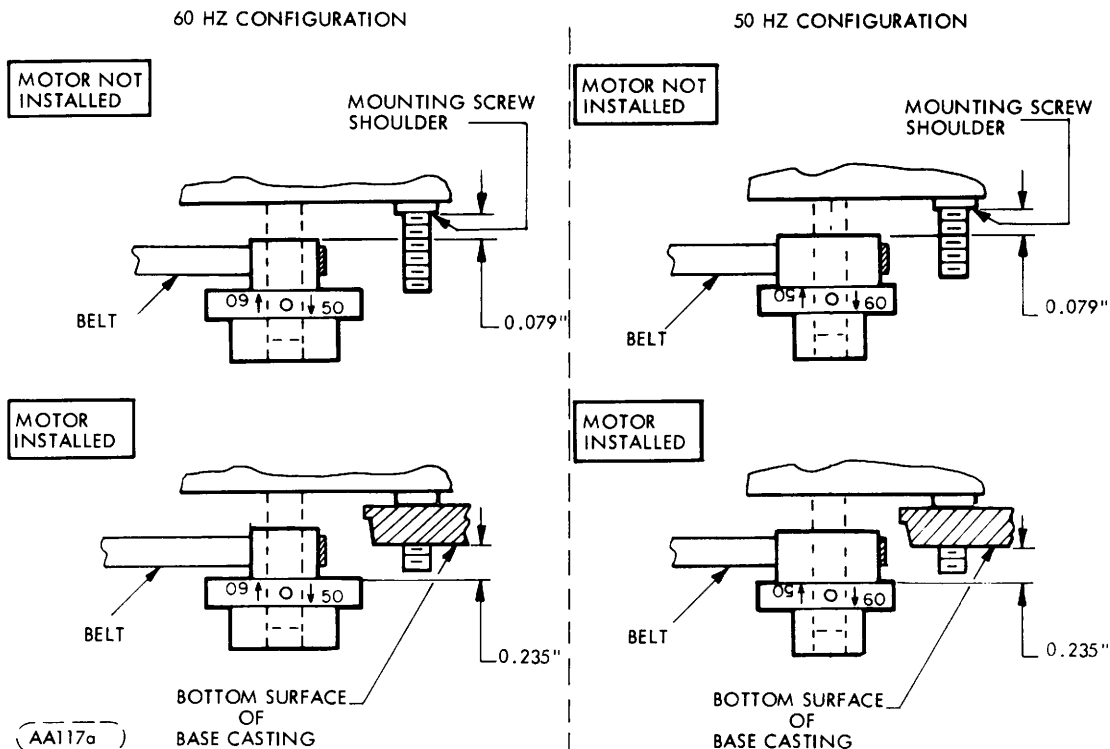

Figure 6-21. Drive Pulley Reversal
- Position pulley allowing tolerance of  $0.072'' \pm 0.010''$  between shoulder of motor mounting screws and pulley (Figure 6-21).